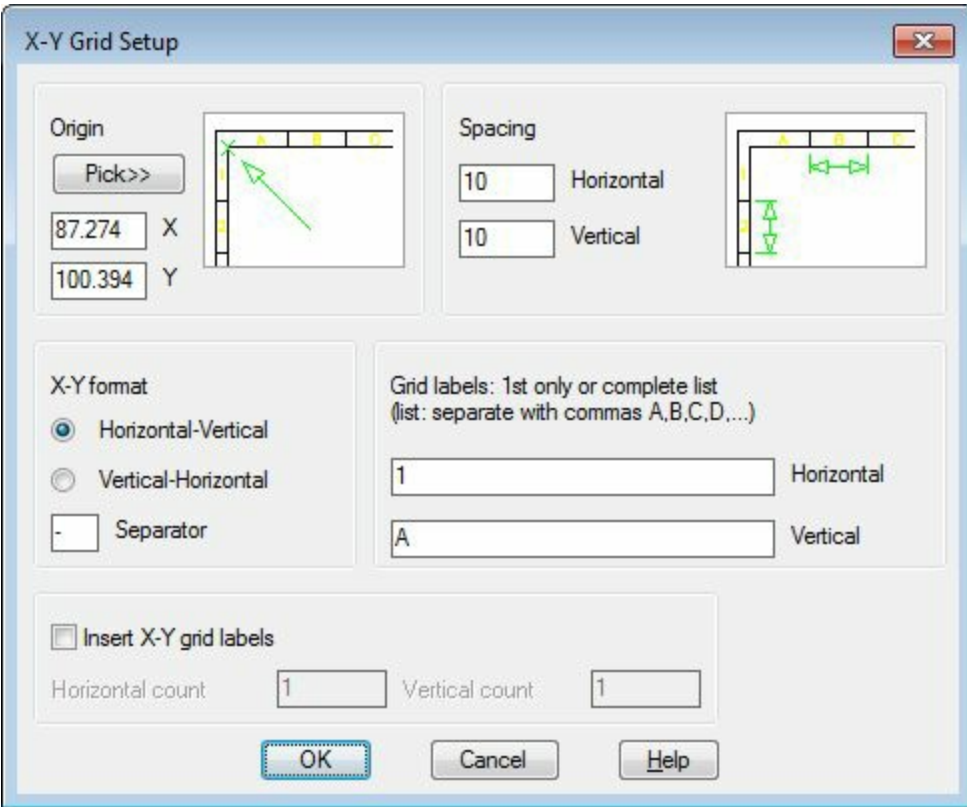

Figure-16. X-Y Grid Setup dialog box
- Click on the **XY Grid Setup** tool from the **Ladder** drop-down. The **X-Y Grid Setup** dialog box will be displayed as shown in Figure-16.